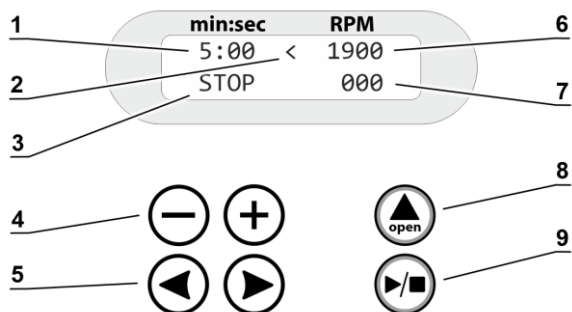

Figure 2. Control panel
- Set time (min:sec, fig. 2/1), parameter selection indicator < or > (fig. 2/2) and set speed (fig. 2/6) in the top row.
- Indication **STOP** (fig. 2/3) and current speed (fig. 2/7) in the bottom row.
5.2.2 Open the protective lid of the unit by pressing the ▲ **open** (fig. 2/8). Display shows the **OPEN** indication.
5.3.1 Using the ◀ and ▶ **SELECT** keys (fig. 2/5), choose between time and homogenization speed. The < or > indicator (fig. 2/2) marks the selected parameter.
5.3.2 Using the + and - keys (fig. 2/4), set the time (fig. 2/1) and speed (fig. 2/6) of the operation. Hold the key pressed to change the values faster.
- 5.4.1 Press the ►/■ **RUN/STOP** key (fig. 2/9) to start homogenization. Display shows the **RUN** indication (fig. 2/4) and current speed (fig. 2/7). Timer starts the countdown when set RPM is achieved. Speed can be changed during the operation.